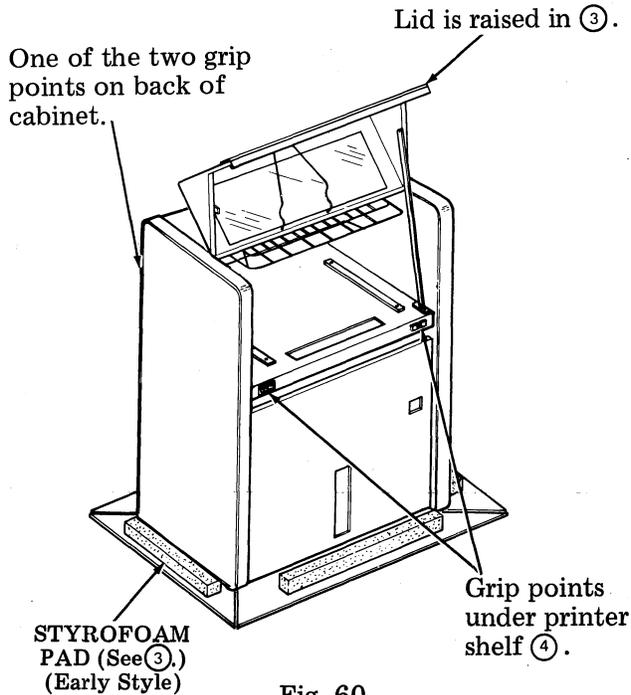

Fig. 60
- ③ Raise cabinet lid to the fully raised position. The lid is latched in place. Remove packing details from under lid and from door. If the packing material is to be reused, in ④ lift cabinet over styrofoam packing detail behind cabinet. If packing material is to be destroyed after this use, break off styrofoam packing detail behind cabinet (detail not present on all pack styles). See Fig. 60.